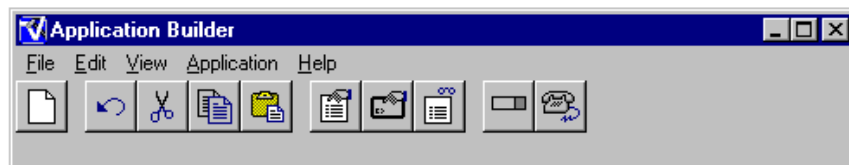

Figure 1-5 Application Builder Menu Titles and Toolbar
5. The Application Builder menu titles and toolbar appear (Figure 1-5). The menu commands and toolbar buttons are described in detail in Chapter 2.